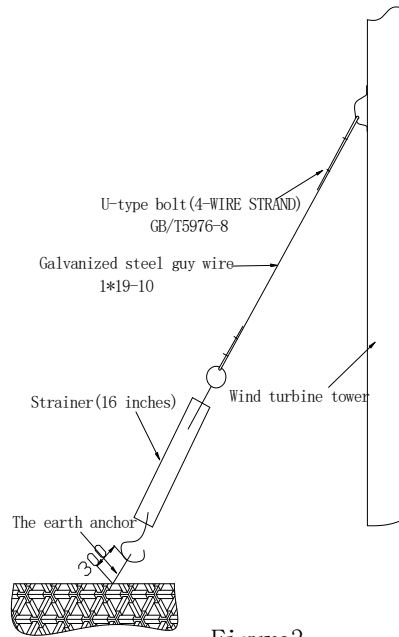

Figure3
2. The installation sequence of the wind turbines can follow the steps as illustrated in figure3.
- 2-3. After the flange bolt (9) is mounted on the flap gasket (10), plug it in the correspondent jacks of the flange base with the bolt's head being up. Set the bolt silk into the elastic washer and then use a spanner to tighten the nut with the flange bolts silk. Similarly, plug other bolts, flat gasket, elastic washer and nuts in the corresponding jacks. Screw down four nuts. Please refer to table 2 about the efforts needed to tighten up them.
3. The installation of the wind wheel blades: instal the diplopore of the wind wheel blades (6) onto the groove of the wind wheel hub(5). You shall match them perfectly. Otherwise, you can turn one blade back and then do the installation work. Please penetrate the stainless flange screw(13) into the pore from the front, then tighten up the anti-slack nut(14) (attention: the anti-slak nut is disposable, so it can only be screwed, but not be loosened). The operation on the other baldes is similar. Please refer to table2 about the efforts needed on them.
- 5.The installation of the fairing: the fit between the fairing(8) and the wind wheel hub(5) belongs to the clasp. The three gaps of the fairing are for the three blades, thus use your hands to clap the fairing pyramid so as to help them get into the seams of the wind wheel hub.
Figure 3 wind turbine decomposition